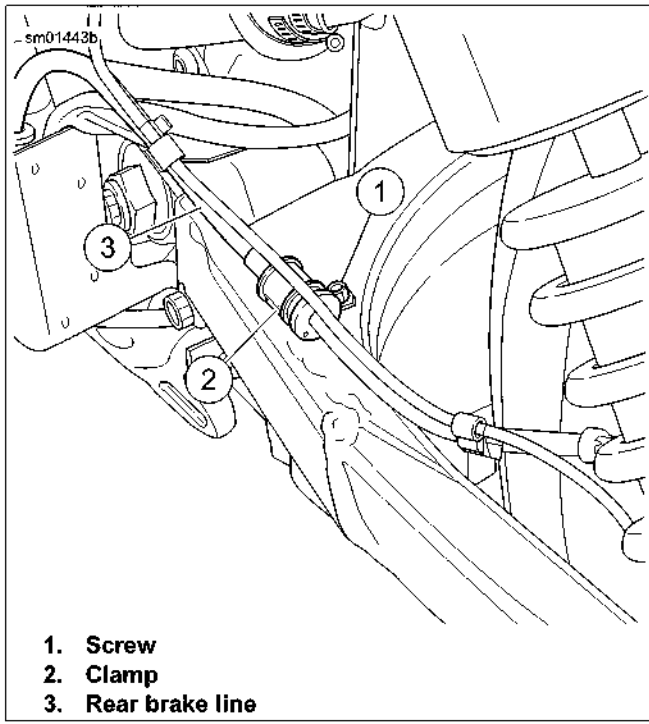

Figure 1-27. Rear Brake Line
1. See Figure 1-27. Remove screw (1) from clamp (2) on rear brake line (3).
5. Tighten axle nut (4) to 95-105 ft-lbs (129-142 Nm). Install new E-clip (1).
6. See Figure 1-27. Reposition clamp (2) on rear brake line (3). Secure clamp to rear fork with screw (1). Tighten to 30-40 in-lbs (3.4-4.5 Nm).